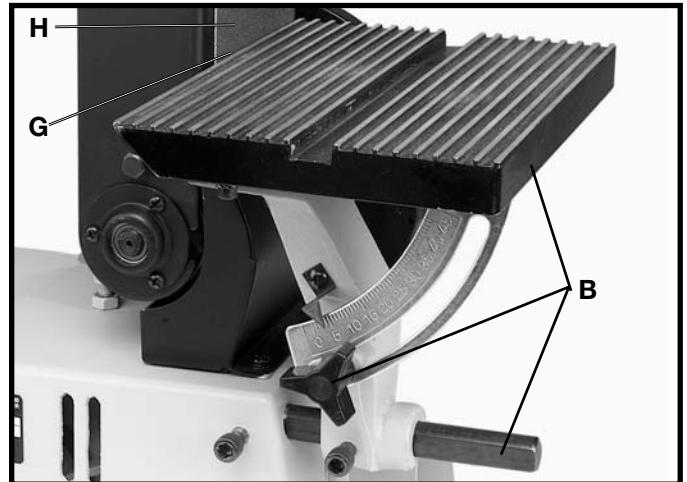

Fig. 37
5. Fig. 37, illustrates the table assembly (B) assembled to the belt unit.
**⚠ WARNING: THE TABLE EDGE (G) MUST BE POSITIONED A MAXIMUM OF 1/16 INCH AWAY FROM THE SANDING BELT (H) TO AVOID TRAPPING THE WORK OR FINGERS BETWEEN THE TABLE AND SANDING BELT.**